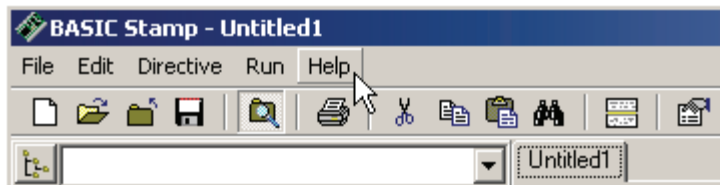

Figure 1-9
- ✓ On the BASIC Stamp Editor's toolbar, click Help on the toolbar (Figure 1-9) and then select BASIC Stamp Help... from the drop-down menu.